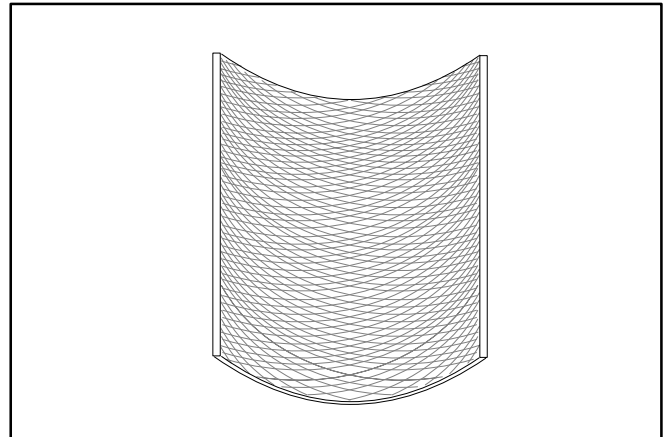

FIGURE 96. PROPER HONE CROSSHATCH IN CYLINDER BORE
The available oversize pistons and rings will fit with the required clearance in cylinders machined to the matching oversize (standard bore plus 0.005, 0.010, 0.020, 0.030 and 0.040 inch). There is no need to adjust or to “fit” pistons and rings. Piston and ring size should be checked as described below to confirm that they are correct for the standard bore oversize. Boring and honing must be accurate and remove just enough metal for the smallest oversize possible. The finish hone should leave a 20 to 40 micro-inch crosshatch finish having an included angle of 20 to 25 degrees. The crosshatch finish is necessary for fast piston ring break-in. See Figure 96.
3. Drive the tool with a slow-speed drill. Move the tool up and down in the cylinder bores fast enough to obtain the crosshatch pattern shown (Figure 96). Ten to twelve strokes should be sufficient.